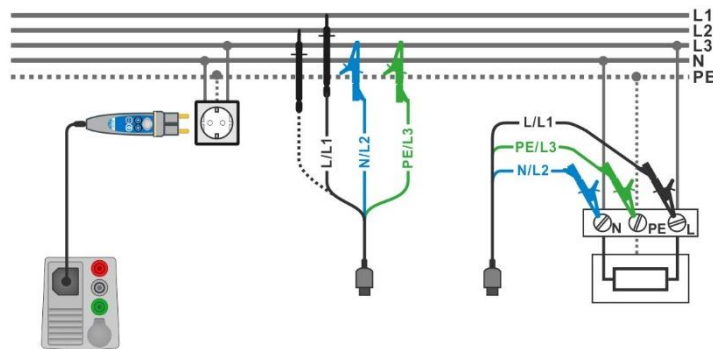

Figure 7.135: AUTO TN measurement
- ▶ Connect 3-wire test lead or Plug commander to the object under test, see Figure 7.135.